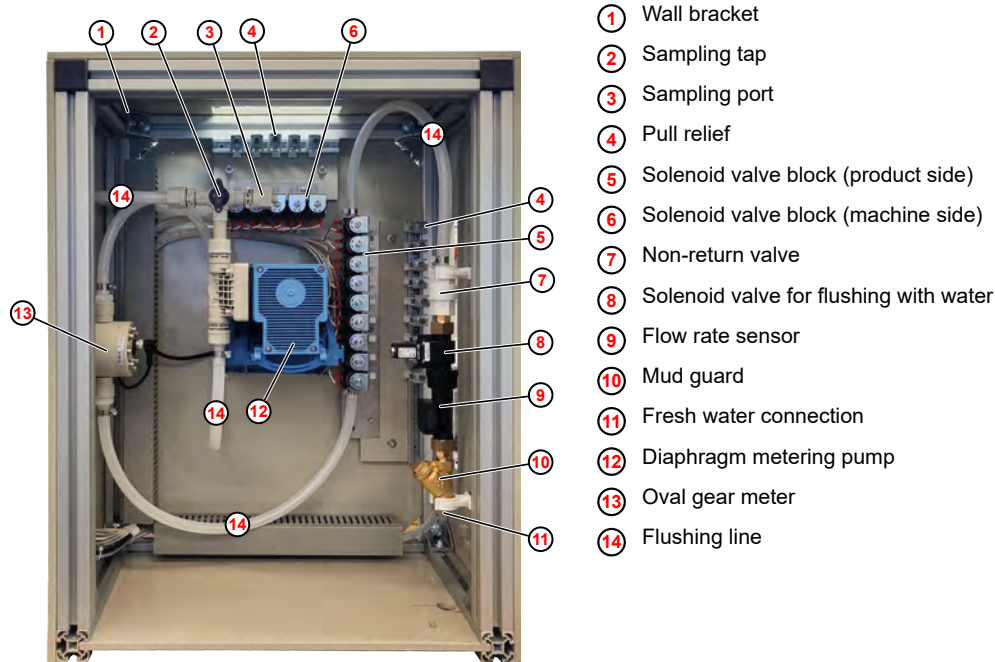

Fig. 2: Layout ULTRAX Cube
Before the actual product metering starts, the flush valve ( Fig. 2 , ⑧ ) opens for flushing the system internally with water. At the same time, the relevant valve of the valve distributor block (e.g. M1) ( Fig. 2 , ⑥ , no. 18) opens on the machine side.
Fresh water now flows from the water inlet through the mud guard ( Fig. 2 , ⑩ ) and flow sensor ( Fig. 2 , ⑨ ) into the flush valve, from there through the valve distributor block on the product side ( Fig. 2 , ⑤ ), on into the valve distributor block at the machine side and through the metering line into the washer extractor.
Depending on the stored washing programme parameters, a valve on the product-end valve distributor block (e.g. P1) ( Fig. 2 , ⑤ ) then opens and the metering pump ( Fig. 2 , ⑫ ) starts, provided that the relevant connected suction lance is in the product container, and there is sufficient product available.
During metering, the product is pumped from the suction lance into the product-end valve distributor block by the pumps, on to the machine-end valve distributor block and through the metering line into the washer extractor. The quantity of product flowing through the unit is monitored by the oval gear meter ( Fig. 2 , ⑬ ), and the signals are evaluated in the control unit. When the required metering quantity has been reached, the pump is stopped, and the valve of the valve distributor block on the product side closes.